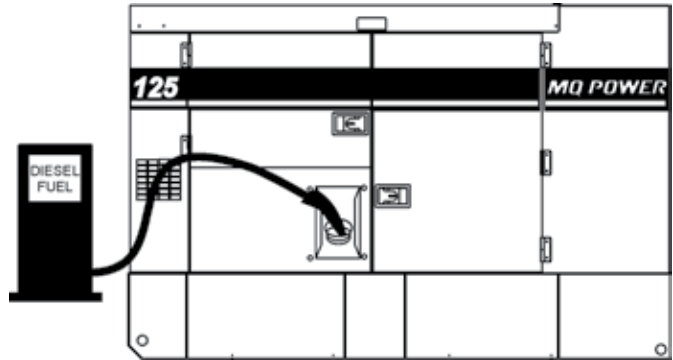

Figure 34. Fueling the Generator
2. Remove fuel cap (internal fuel tank) and fill tank as shown in (Figure 34).